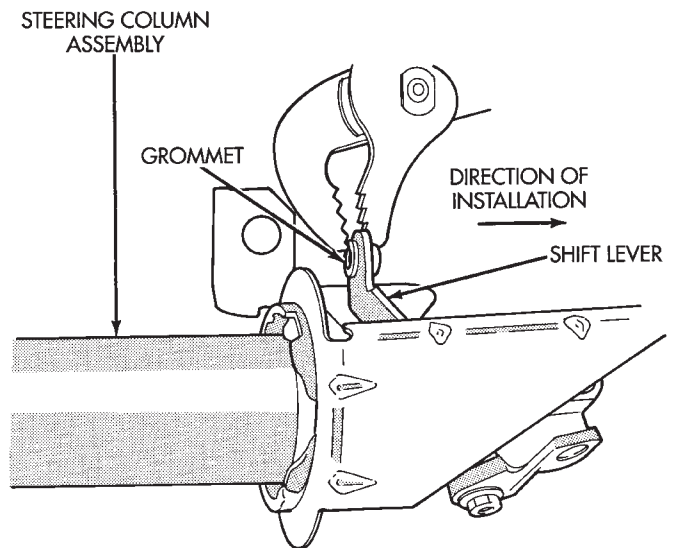
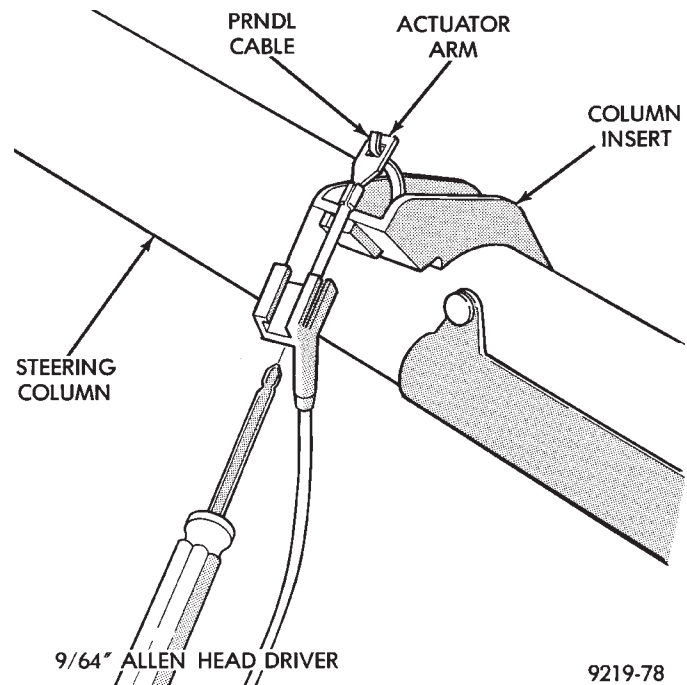

Fig. 11 Replacement Cable Grommet Installation
Fig. 14 PRNDL Actuator Cable Adjustment
(1) For column shift vehicles, install a **new cable attaching grommet into the steering column shift lever (Fig. 11). Install grommet from the cable side of the lever.** Use pliers and a back-up washer to snap the grommet into place (Fig. 11). Use Mopar® Multipurpose Lubricant, or equivalent, to aid installation of the grommet. **A replacement grommet should be used whenever the rod is disconnected from the lever.**
(10) Hook the PRNDL actuator cable eyelet to the steering column actuator arm (Fig. 7). Move the shift lever to neutral, check pointer location, should indicate neutral. If pointer does not indicate neutral adjust actuator with tool (Fig. 14) to center pointer on N (Neutral) and then check pointer location in other gears.
(11) Install the lock housing shrouds. The shroud fasteners are **Torx-head** screws. Install the tilt lever (if equipped).
(12) Install the lower dash panel cover.
(13) For steering wheel installation with speed control refer to Group 8 Electrical. For non-speed control, place the steering wheel on the steering column shaft with the master splines aligned. Install the steering wheel to column shaft retaining nut. Tighten retaining nut to 61 N•m (45 ft. lbs.) torque. **Do not force the steering wheel onto the column shaft by driving it on with a heavy object. Pull steering wheel down onto column shaft using ONLY the steering wheel retaining nut.**
(14) For vehicles equipped with a column shift. Pass the transmission shift cable through its mounting bracket on the steering column assembly. Connect the transmission shift cable to the shift lever on the steering column assembly. Install the shift cable to mounting bracket retaining clip (Fig. 2). **The grommet must be installed in the shift lever (Fig. 11) before the cable is inserted into the grommet.**